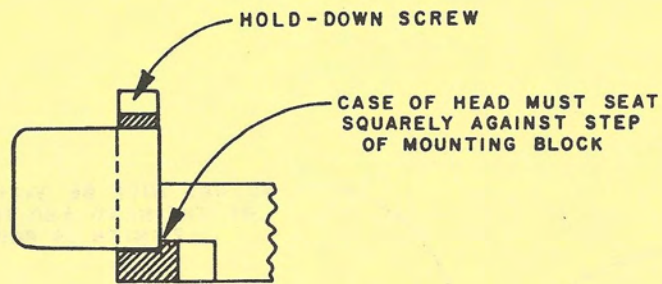

Figure 11
3. Align the rear edge of the head case so that it seats squarely against the back of the "step" cast into the head mounting block. See Figure 11.